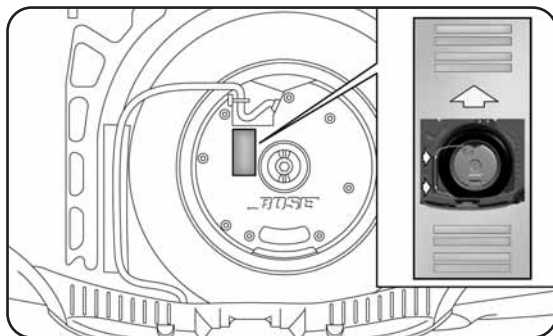

fig. 11
- reposition the container (with the arrow pointing forwards) and place the Subwoofer on top of it, taking care to arrange it according to the indications on the container (fig. 11) so that the word "BOSE" is read in the correct position;